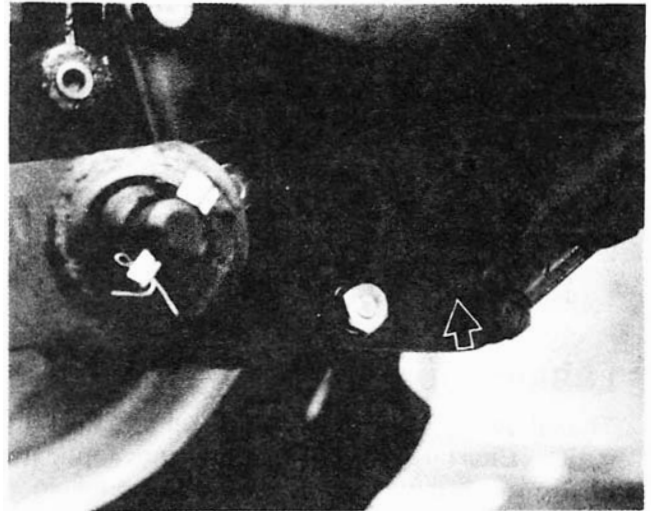

Figure 31 — Transmission, Rear Axle Center Housing and Rear Axle Oil Drain Plugs
1. With the oil at normal operating temperature, drain and discard the oil by removing the transmission, rear axle center housing and rear axle drain plugs, Figure 31. Reinstall the plugs after the oil has drained. Discard the oil.